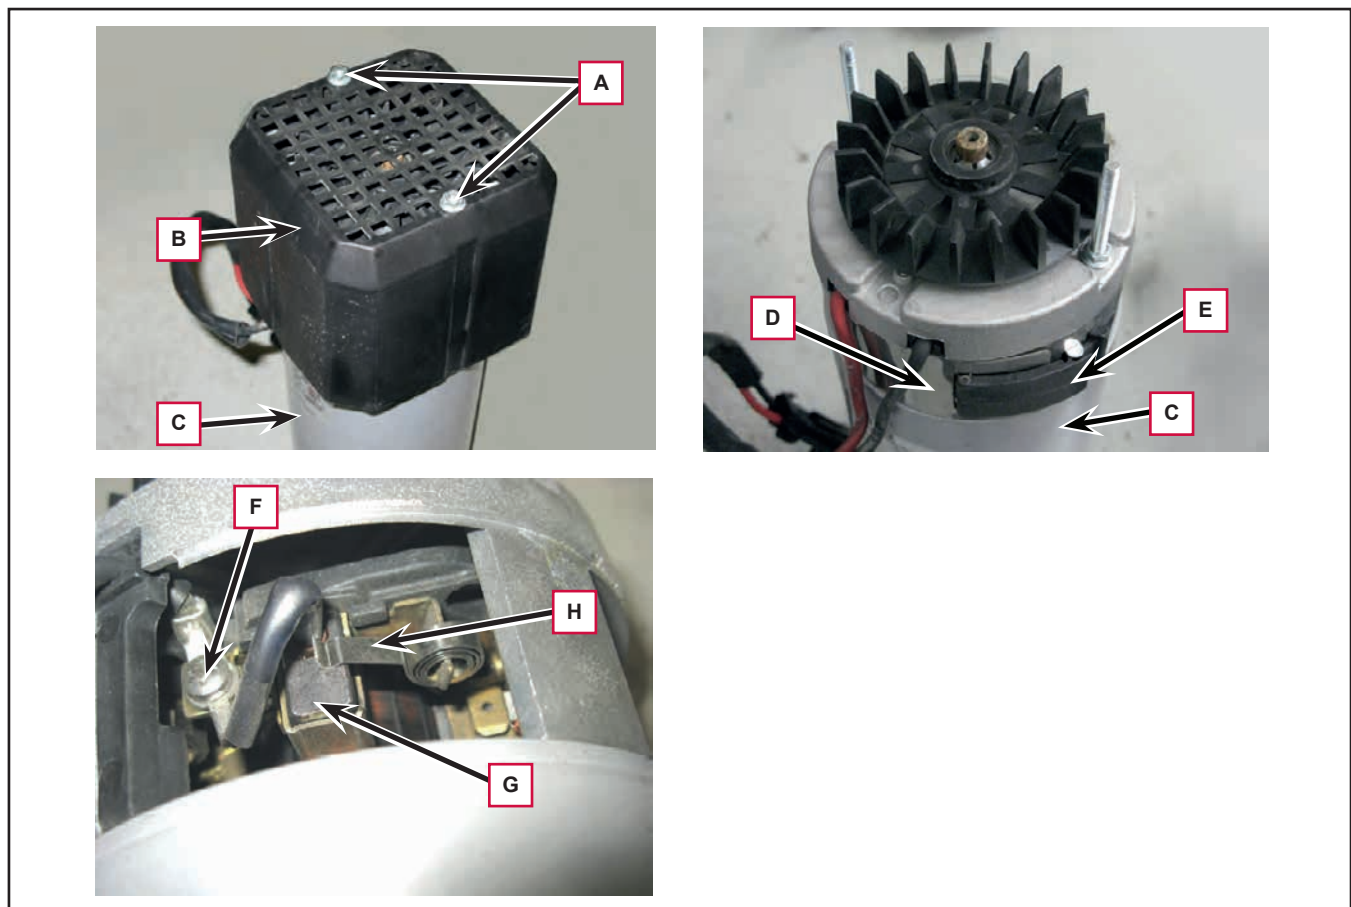

Figure 18
2. At the workbench, remove the nuts (A, Fig. 18) and the guard (B) of the main broom motor (C).
3. If necessary, clean the external side of the motor (C) in the area of the protection band (D).
4. Disengage the cam lever (E) and remove the protection band (D).
5. Remove the fastening screws (F) of the electrical connections of the four carbon brushes (G).
6. Remove the four carbon brushes (G) from their housings, by disengaging them from the retaining springs (H).
7. Check the two carbon brushes (G) for wear. Replace the carbon brushes when: the contact with the motor armature is insufficient, the carbon brushes are worn, the carbon brush contact surface is not integral, the thrust spring is broken, etc. If the length of the carbon brushes is insufficient, these must be replaced.